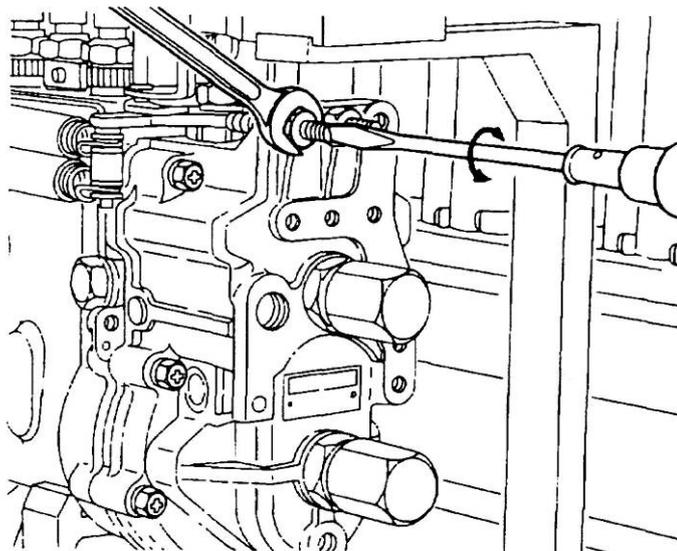

Figure 126 Adjustment of the Maximum Speed Setting Bolt
- r.** Set the pump speed to 1120 rpm and set the control lever in the position where it makes contact with the maximum speed setting bolt. Adjust the maximum speed setting bolt (Figure 126) so that the control rack begins to move in the fuel decrease direction while the pump speed is 1575 to 1635 rpm. Tighten the locknut on the maximum speed setting bolt.